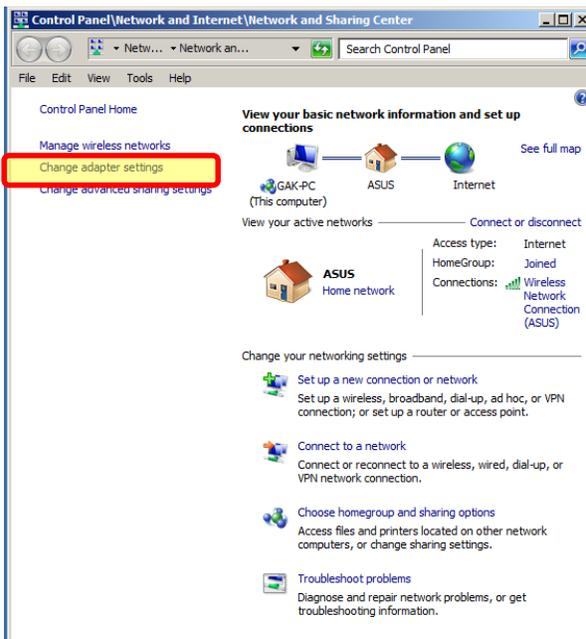

Figure 4-6
- 4) Type “network and sharing” into the search box that appears after clicking on the start button. Select the ‘Network and Sharing Center’ to access the “Control Panel\Network and Sharing Center” application shown in Figure 4-6. Next, select ‘Change adapter settings’ to display the “Control panel\Network and Internet\Network connections” screen. This will open up a window that shows you all of the networking adapters installed on your PC.